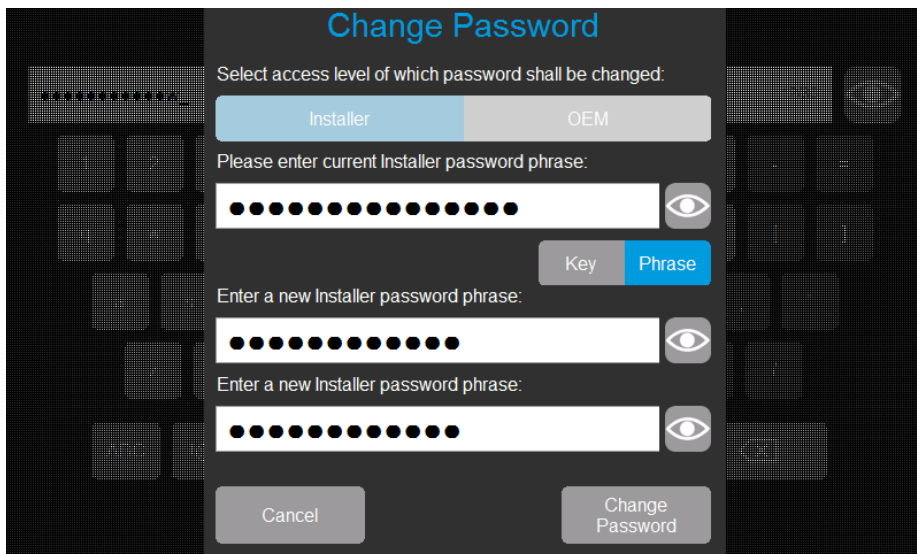

Fig. 80: Change Installer password as Installer dialog box with entered password.
6. When the Change Password dialog box reappears (refer to Fig. 80), select Change Password.
- If No is selected, the Password Changed confirmation dialog box will close and the user will stay logged in with the old password, with the Change Password dialog box open (refer to Fig. 80).